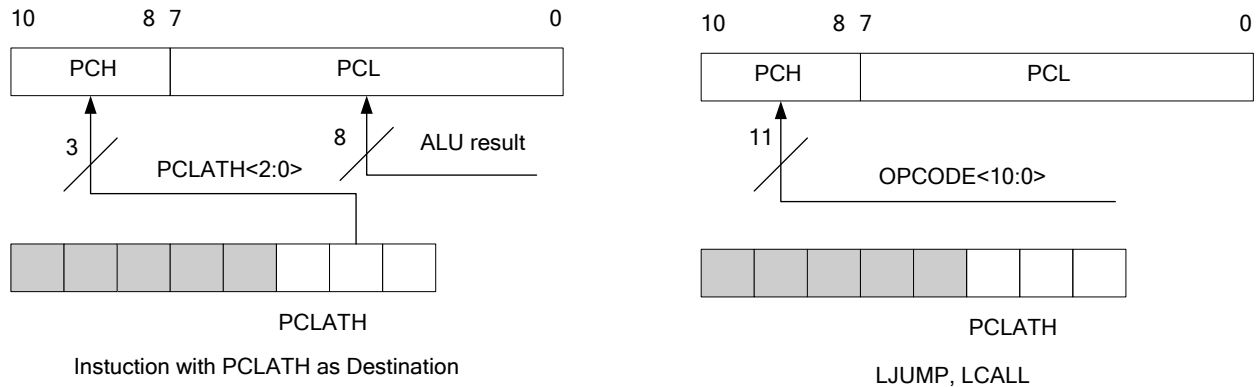

Figure 15-3 Loading of PC in different situations
The Program Counter (PC) is 11 bits wide. The low byte comes from the PCL register, which is a readable and writable register. The high byte PC[10:8] is not directly readable or writable and comes from PCLATH. On any Reset, PC clears. **Figure 15-3** shows the two situations for the loading of the PC.